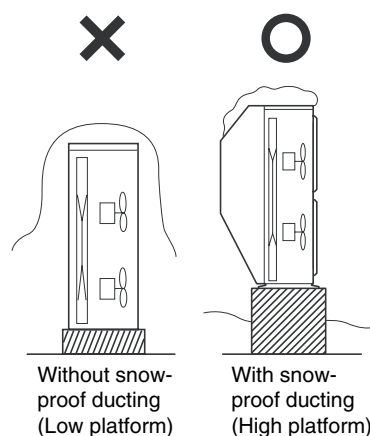

Fig. 1-6
- 1) The platform should be higher than the max. snow depth. (Fig. 1-6)